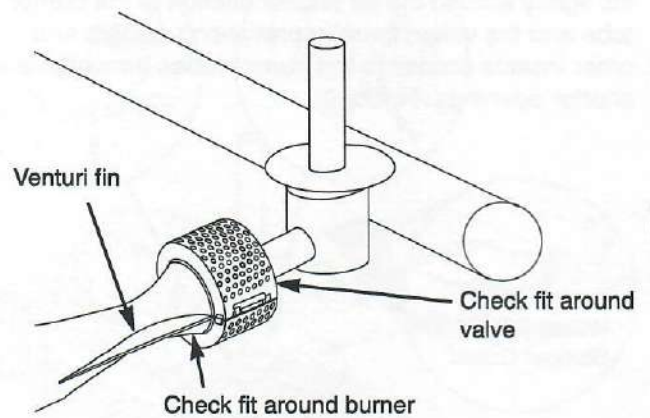

Figure 17
i) Reinstall the Spider Stopper Guards. Slightly rotate the Spider Stopper Guards so that the seams are in line with the Venturi fins. There should be no gaps in the seams or in the fit around the burners and valves. Figure 17.